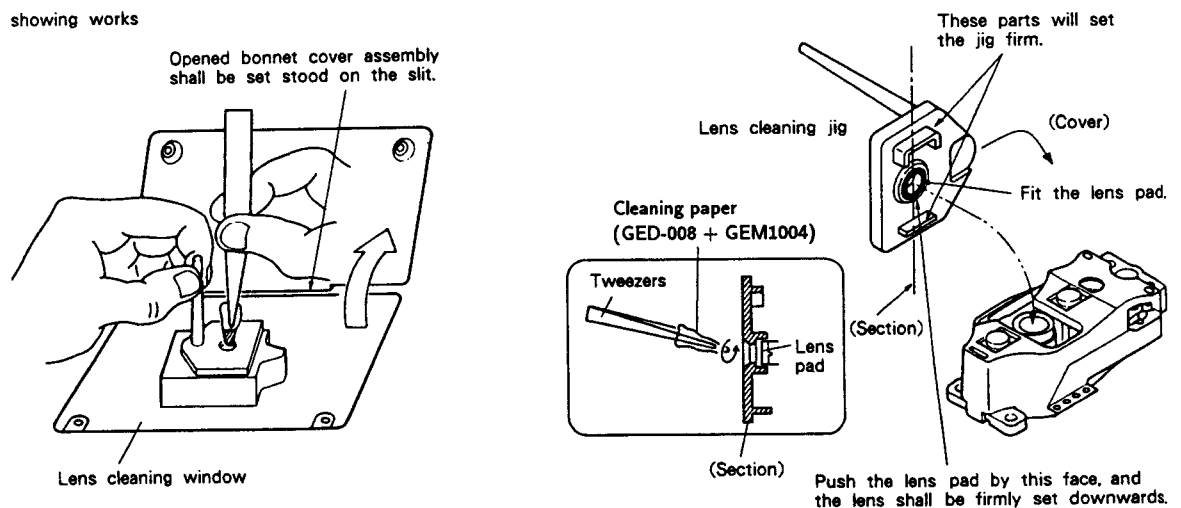

Fig. 13 Lens cleaning
2. Switch the power off, and open the bonnet cover assembly. The open part is called "lens cleaning window". (Refer to Fig. 13)